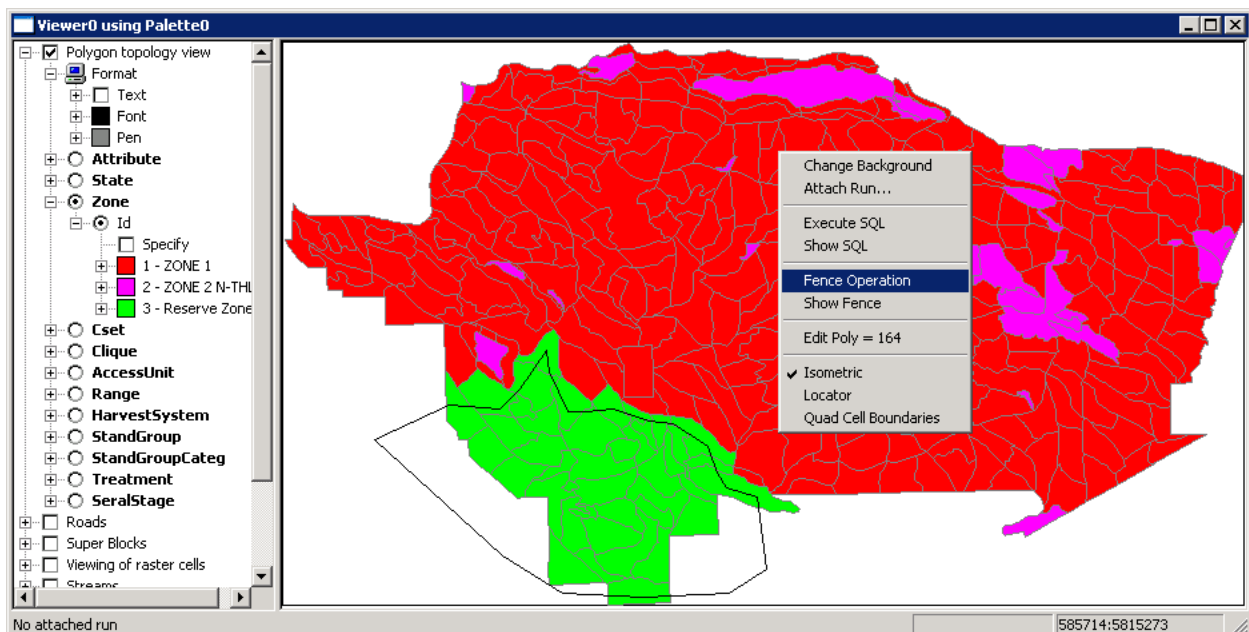

Figure 27: Fencing operation
3.3.4 Select the polygons located in the south-west portion of the map by drawing a fence around them (Figure 27) vertices can be created through clicking. When you want to close the fence right-click.